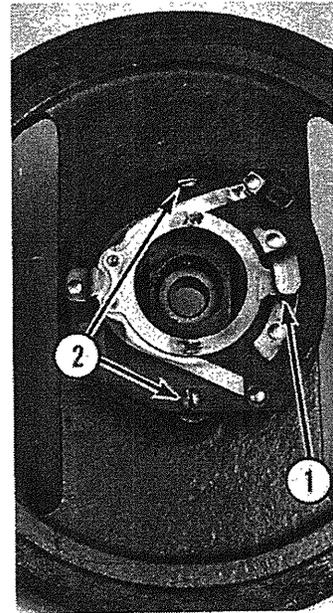

Fig. 8-8
- D. On single phase units inspect the starting switch contacts (1, Fig. 8-8). If the contacts are dirty, clean them with 4/0 emery paper. If the contacts are pitted, replace the switch. Refer to: "Replacing the Start Switch (Stationary Parts)".
- E. Remove the two screws (2, Fig. 8-8) and lift up the switch.